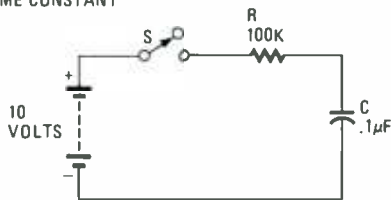

Fig. 20—A charging capacitor requires five time-constants to reach full charge: equal to the applied circuit voltage.
58. (current) The time that it takes for a capacitor to charge or discharge depends upon the values of R and C in the circuit. Refer to Fig. 20. That relationship is known as the
The time constant is the time it takes for a capacitor to charge to 63.2% of the applied voltage. In Fig. 20, the time constant is:
59. (40, 31.6) It takes five time constants for the capacitor to fully charge to the applied voltage. For example, in the example above, it takes $5 \times 40 = 200$ seconds for the capacitor to charge to 50 volts. *It takes _____ milliseconds for the capacitor in Fig. 20 to charge to 10 volts.*